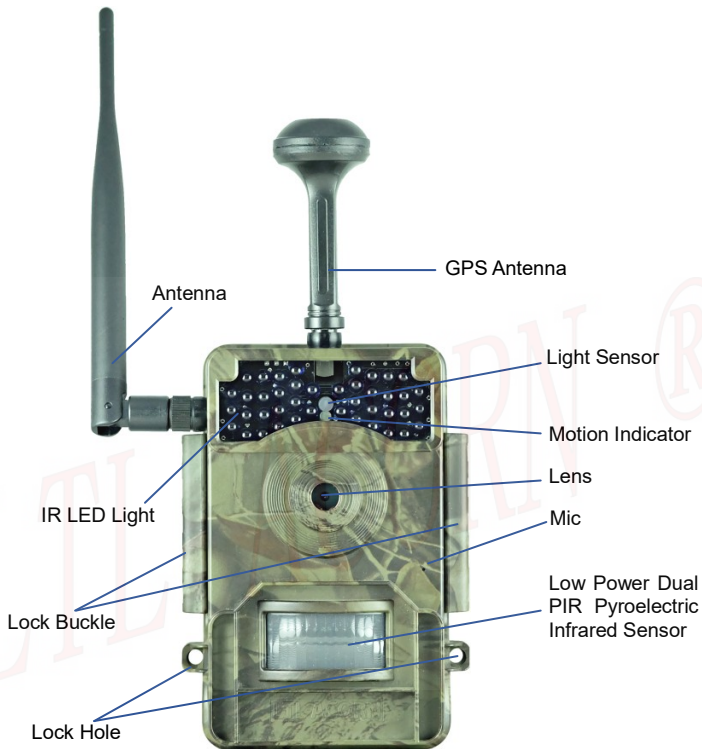

Figure 1.1 Front View of the Camera
- Figure 1.1 shows the front view of the camera